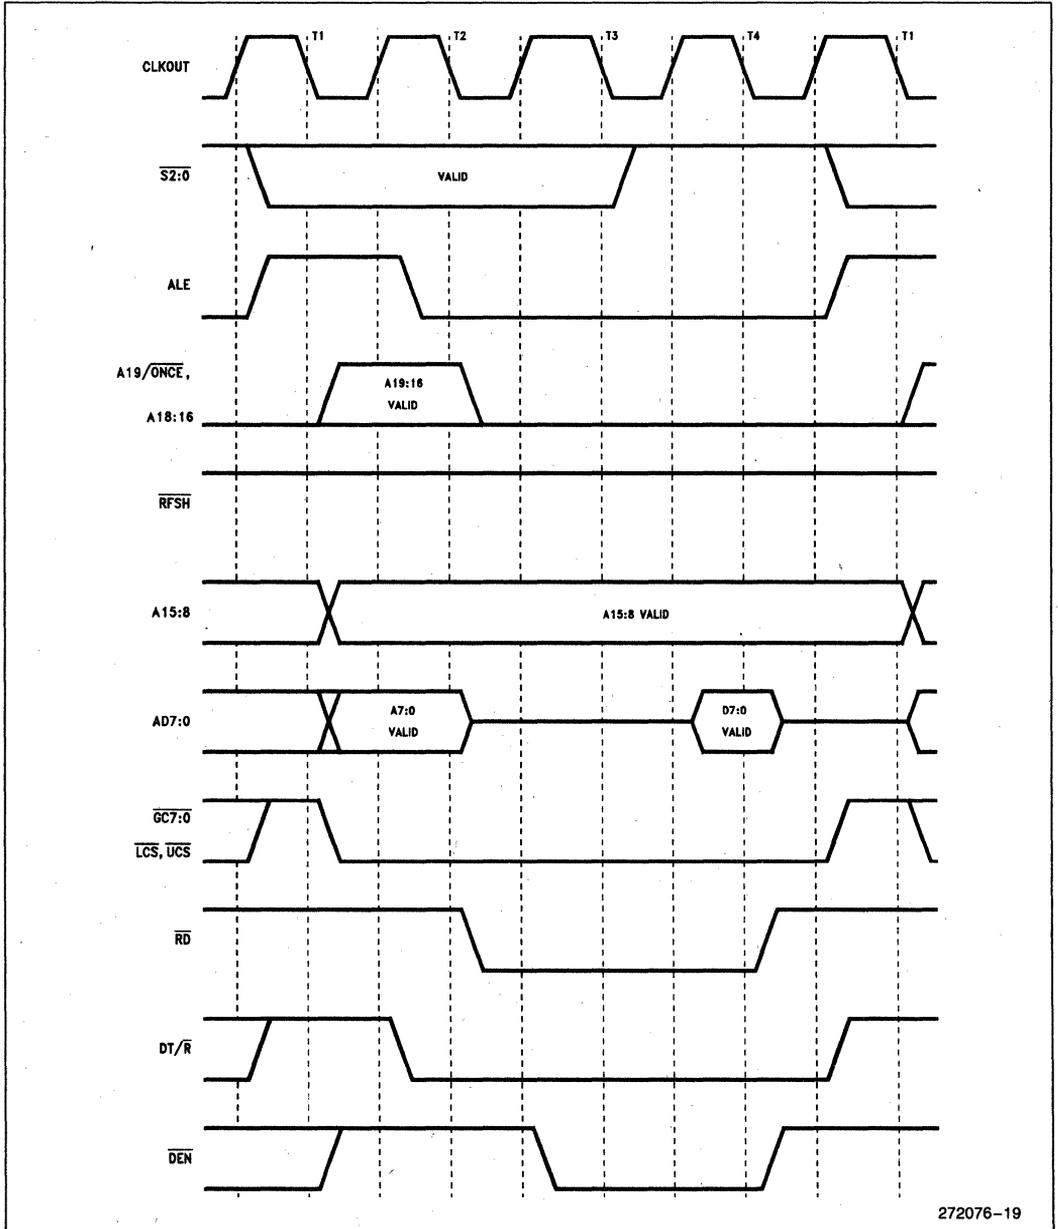

Figure 17. Memory Read, I/O Read, Instruction Fetch and Refresh Waveform
6. See Figure 17 for rise and fall times.
Figures 17 through 29 present the various bus cycles that are generated by the 80C188EC. What is shown in the figure is the relationship of the various